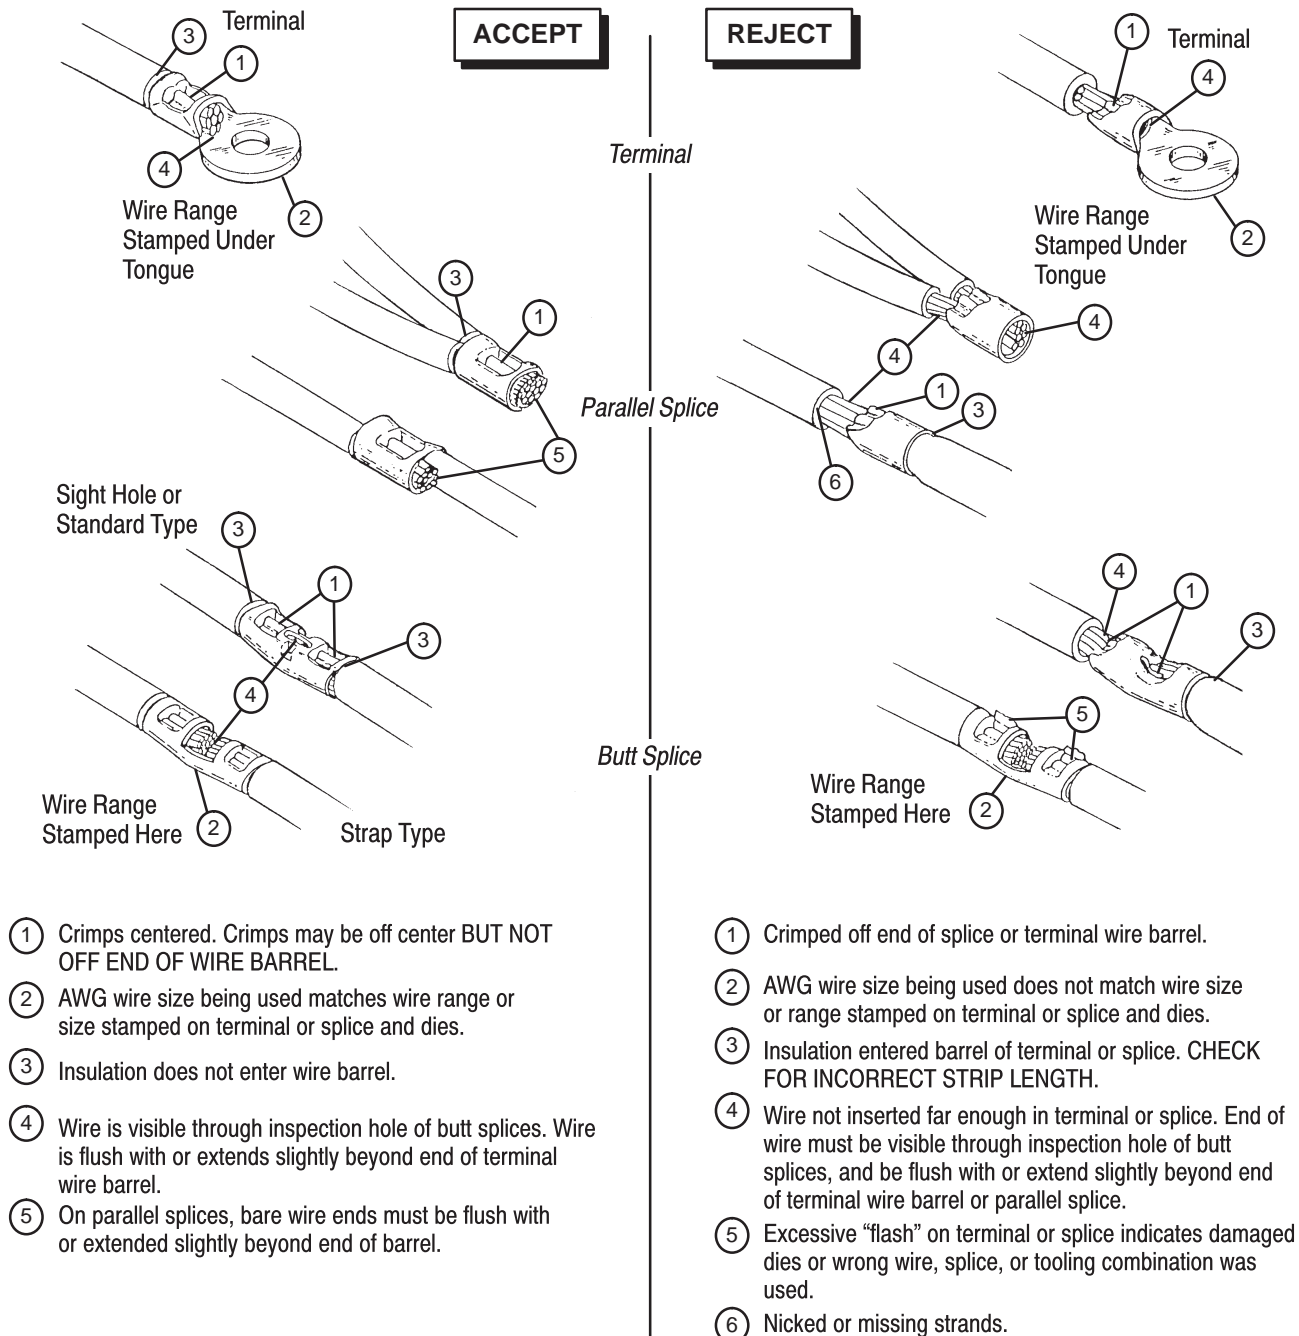

Figure 5
5.1. Crimp Inspection (Figure 5)
Inspect crimped terminals or splices by checking the features described in Figure 5. Use only terminals or splices that meet the conditions shown in the ACCEPT column. Terminals and splices displaying the features shown in the REJECT column can be avoided by careful use of these instructions and by performing the maintenance and inspection procedures described in Paragraphs in 5.2 and 5.3.